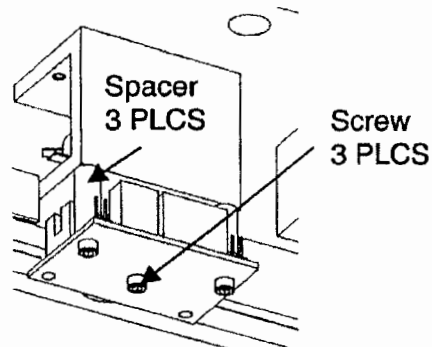

Figure 15
23. Place a 1" Hex screw (021-619-024) into the center hole of the Limit Board then place the spacer (018-002-147) over the screw. Secure screw to the center hole on the Potentiometer Bracket. Ensure Potentiometer cable is positioned out of the path of moving parts. (see Figure 15)